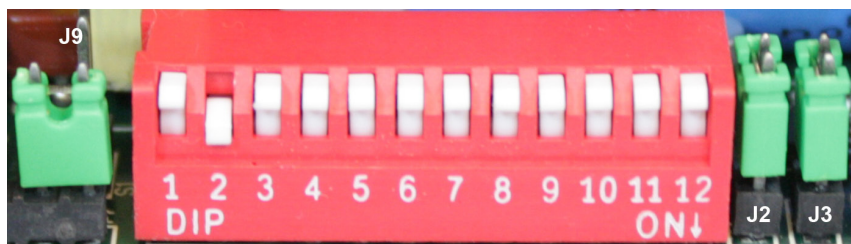

Figure 1: DIP switch for setting VSP extension number. This example shows extension no. 2
2. Set the DIP switch corresponding to the selected number to the ON position (see Figure 1).
- Insert jumpers into pins J2 and J3 (see Figure 1).
- Verify that the station has the correct address for the extension number set on the DIP switch (see Figure 1).
- Verify that the station has only one correct address set on the DIP switch (see Figure 1).